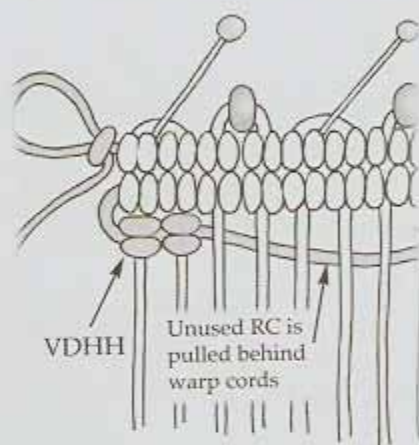
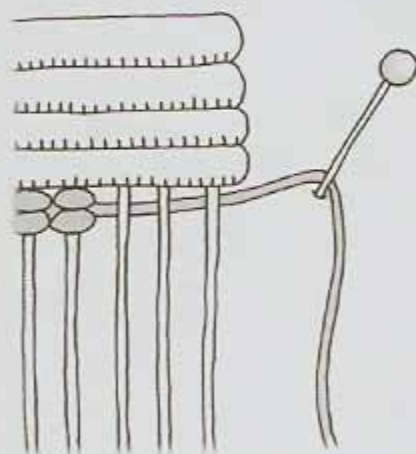

Fig. 4
Fig. 6
5. Row 3 - Bring the **Runner** back to the right to begin the Cavandoli pattern as illustrated on the graph. This same cord, the Color B cord, will be used to start the pattern of **VDHHs**. Make a **VDHH** on warp cords #1 & 2. Bring the **Runner** to the right behind all the remaining vertical cords and off to the side (see Figure 4). Put an extra pin in your knotting board about an inch from the side of the knotted piece. When not in use, the **Runner(s)** can be draped over the pin to be kept out of the way until they are needed again (see Figure 6). Do this on both sides.